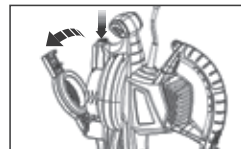

Fig. 8
3. Open the vacuum cover from the bottom of the motor housing by depressing the lock button and pulling the cover down (Fig. 8).